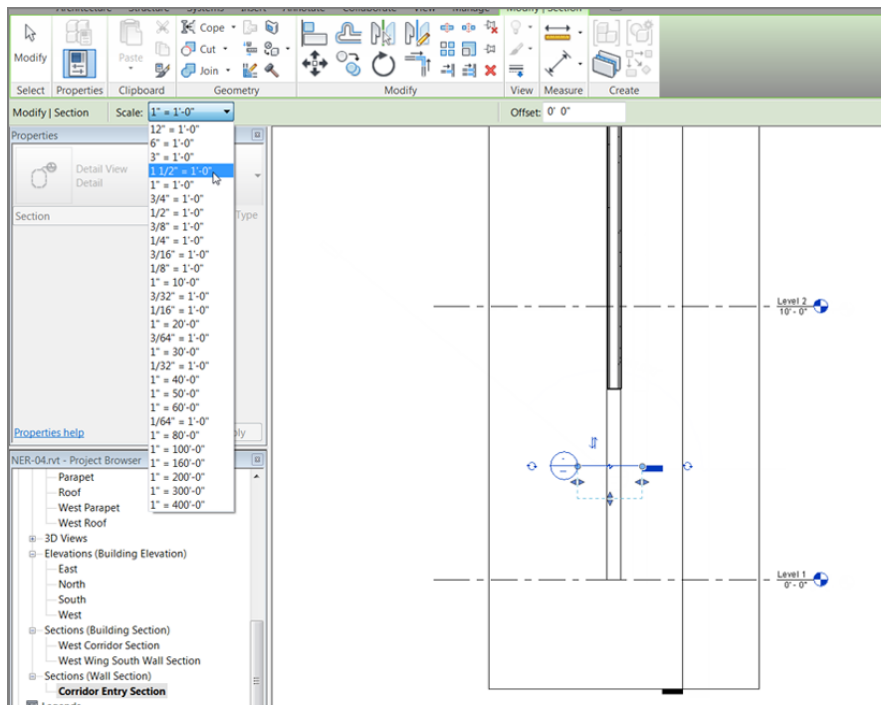

FIGURE 3.56: Creating a plan section detail
4. Place a section horizontally below the head of the opening, as shown in Figure 3.56. Make sure the section is flipped so it's looking downward.